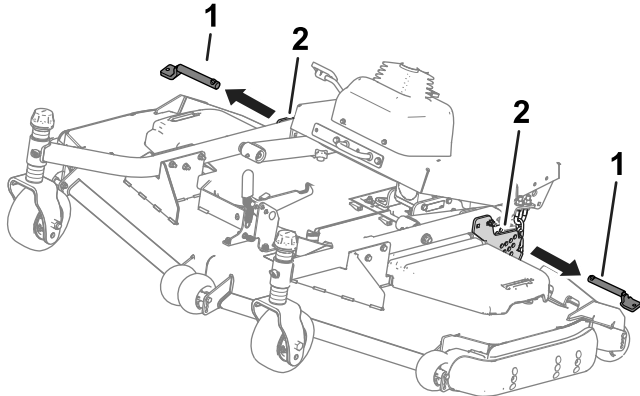

Figure 35
4. Remove the pins from the height-of-cut plates (Figure 35).